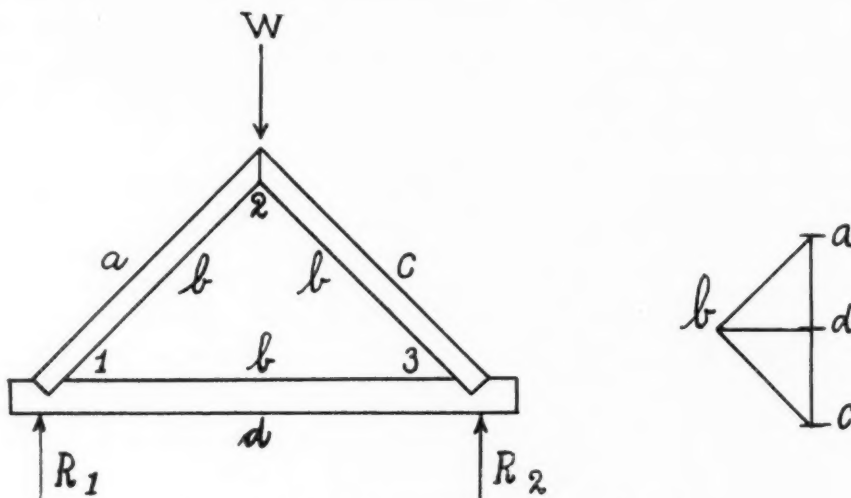

Fig. 11. Graphical Solution Applied to Simple Truss.
"A stress diagram of a triangular truss of the simplest form is shown in the right hand part of Fig. 11. The top force,  $W$ , is the load on the truss, and  $R_1$  and  $R_2$  are the supporting forces at the ends. Assume, for the purpose of illustration, that the load,  $W$ , is 1,000 pounds. This would make  $R_1$  and  $R_2$  each equal to 500 pounds on account of the symmetry of the figure. Beginning at the left hand joint (1), the forces acting to hold this joint where it is, are the supporting force  $R_1$ , the stress in the lower tie member and the stress in the slanting strut,  $ab$ . Assume that 1 inch of length in our diagram represents 1,000 pounds of load or stress in a member. Then begin by laying off the load,  $W$ , which will be a vertical line 1 inch long. This line is drawn in a vertical direction since  $W$  acts downward in a vertical direction. Divide this line into two equal parts, since  $R_1$  and  $R_2$  are both vertical and equal, their sum being equal to